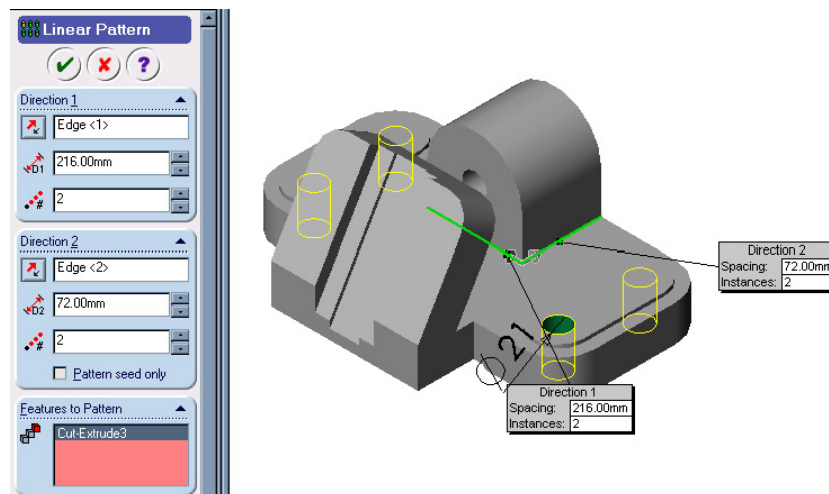

Figure 28 Copying Features using Linear Pattern.
18. Click **Linear Pattern**  on Feature Toolbar, Linear Pattern Property Manager opens as shown in Figure 28.
19. Click on any edge parallel to Direction 1 as shown in Figure 28.
21. Type **2** for **Number of Instances** . A preview of the copied hole will appear as shown in Figure 28. Make sure that it is being copied in correct direction. If not, click on **Reverse Direction** .
22. Click on any edge parallel to Direction 2 as shown in Figure 28.
24. Type **2** for **Number of Instances** . A preview of the copied hole will appear as shown in Figure 28. Make sure that it is being copied in correct direction. If not, click on **Reverse Direction** .